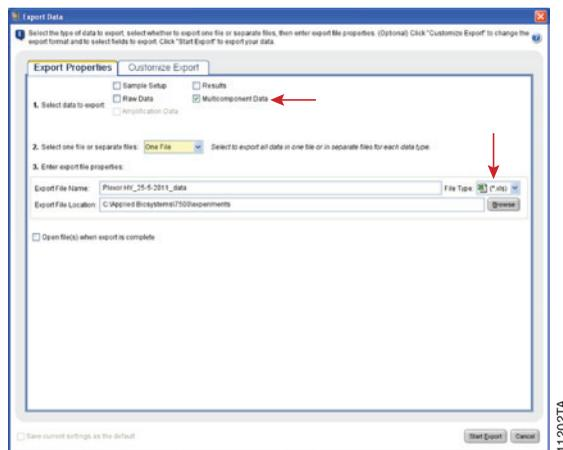

Figure 17. Export properties.
2. In the “Export Data” window (Figure 17), select the following “Export Properties”: